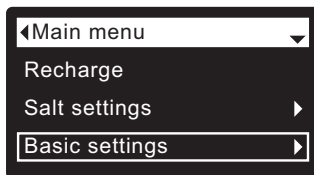

FIG. 59
1. From any of the rolling status screens, press the SELECT (O) button to display the **Main menu**.
2. Press the DOWN (▼) button to scroll through the menu options until **Basic settings** is highlighted (See Figure 59).